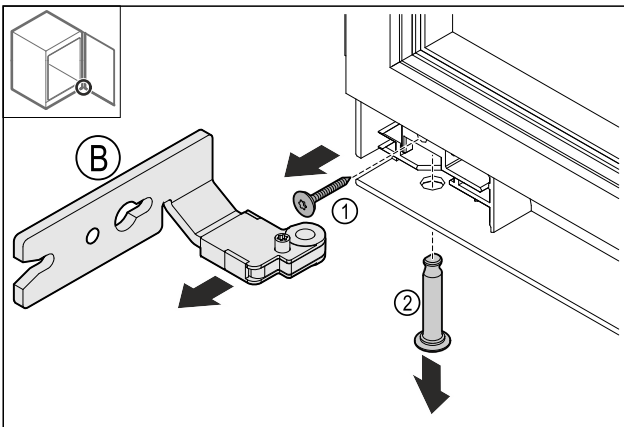

Fig. 15
- ▶ Remove the screw Fig. 15 (1).
- ▶ Remove the pin Fig. 15 (2).
- ▶ Remove the hinge Fig. 15 (B).